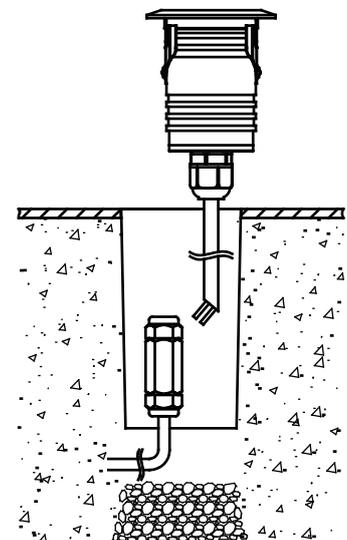

Fig 2.3
- 2.3 Connect the light fixture cable to the junction box. (See Fig 2.3)